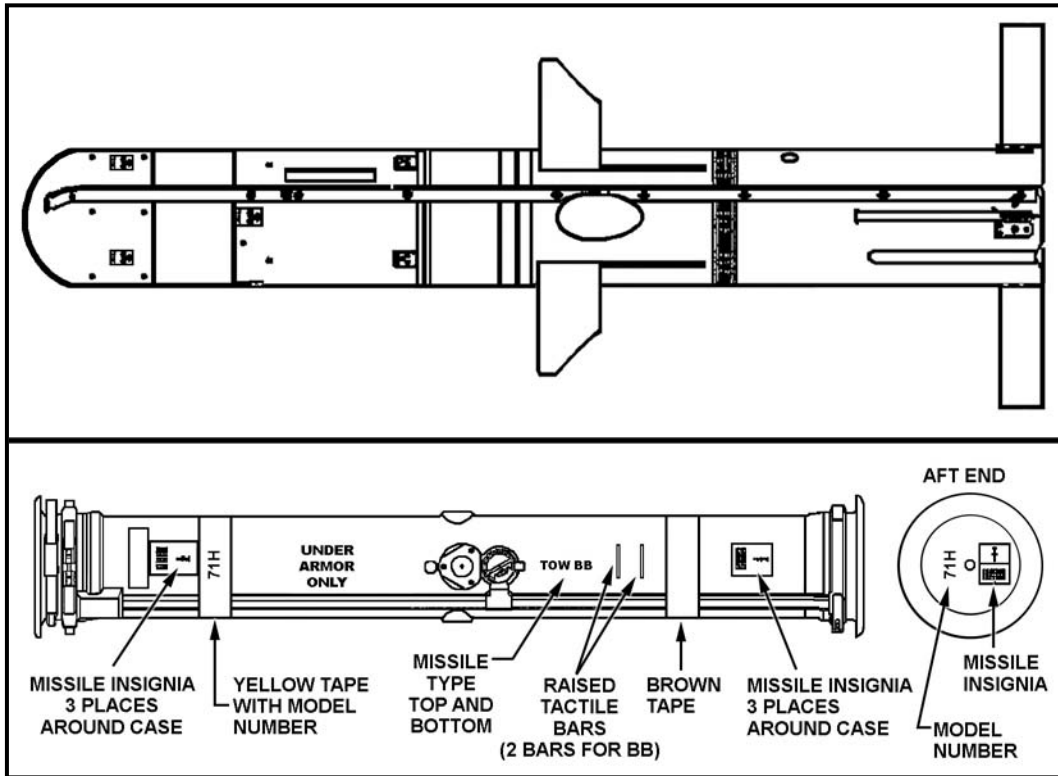

Figure 1-24. TOW BB missile and identification.
h. **TOW BB (BGM-71H)** (Figure 1-24, page 1-28). The TOW BB missile is a bunker-buster—a modification to the TOW 2A missile. It has a range of 3,750 meters and can defeat bunkers, breach masonry walls, and engage all targets in support of military operations in urban terrain (MOUT). The TOW BB should only be fired from under armor (as noted on the missile case).
(1) The nose of the TOW BB is the crush switch, which allows the warhead to detonate upon impact with the target. The warhead is the full 6-inch diameter of the missile body. The TOW BB is not available with a practice warhead.
(2) Two tactile bars are located aft of the umbilical connector on the curvature of the missile case and are used to identify the missile as a bunker-buster.